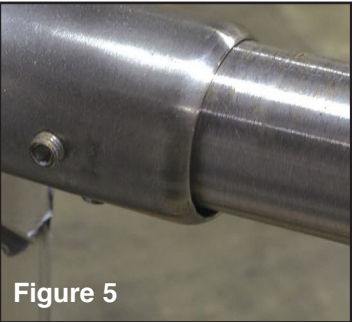

Figure 5
- Slide tubular legs all the way into the gussets (Figure 5). Tighten each Set Screw using Allen Wrench (Figure 6).
Make sure foot pedal(s) are clear from rubbing against the floor when pushed in all the way by pushing with your toe. (Figure 5).